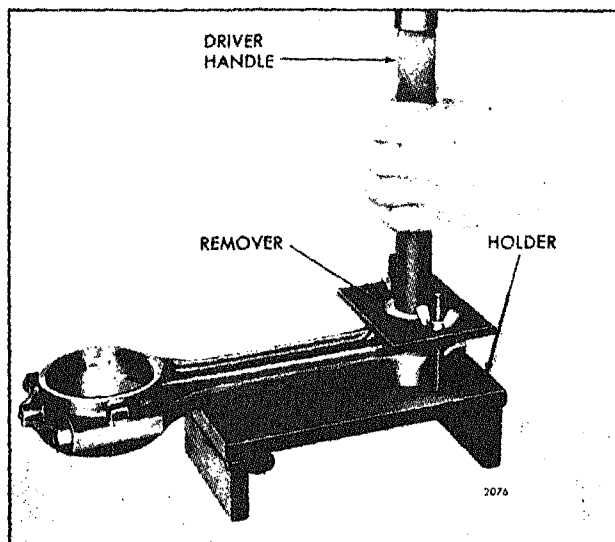

Fig. 4 - Removing or Installing Bushings
1. Clamp the upper end of the connecting rod in holder J 7632 (Fig. 4) so that the bore in the bushings is aligned with the hole in the base of the holder.
1. Clamp the upper end of the connecting rod assembly in holder J 7632 so that the bore for the bushings aligns with the hole in the base of the tool (Fig. 4).